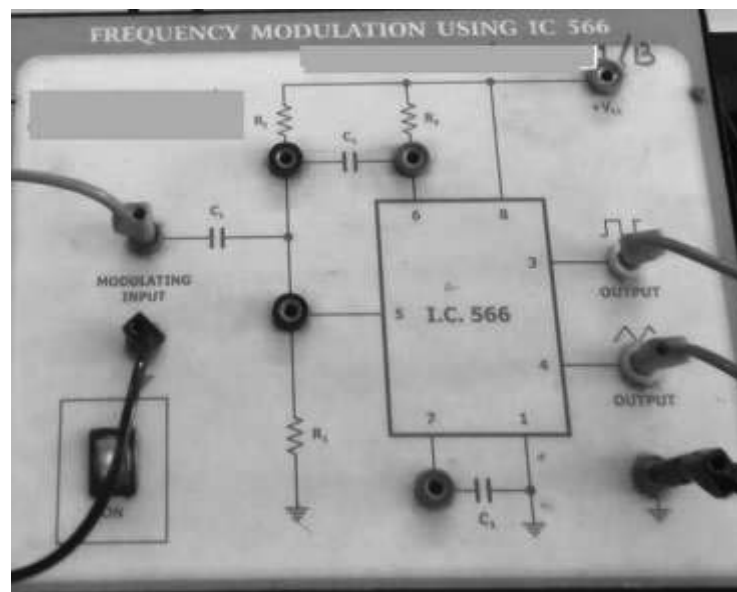
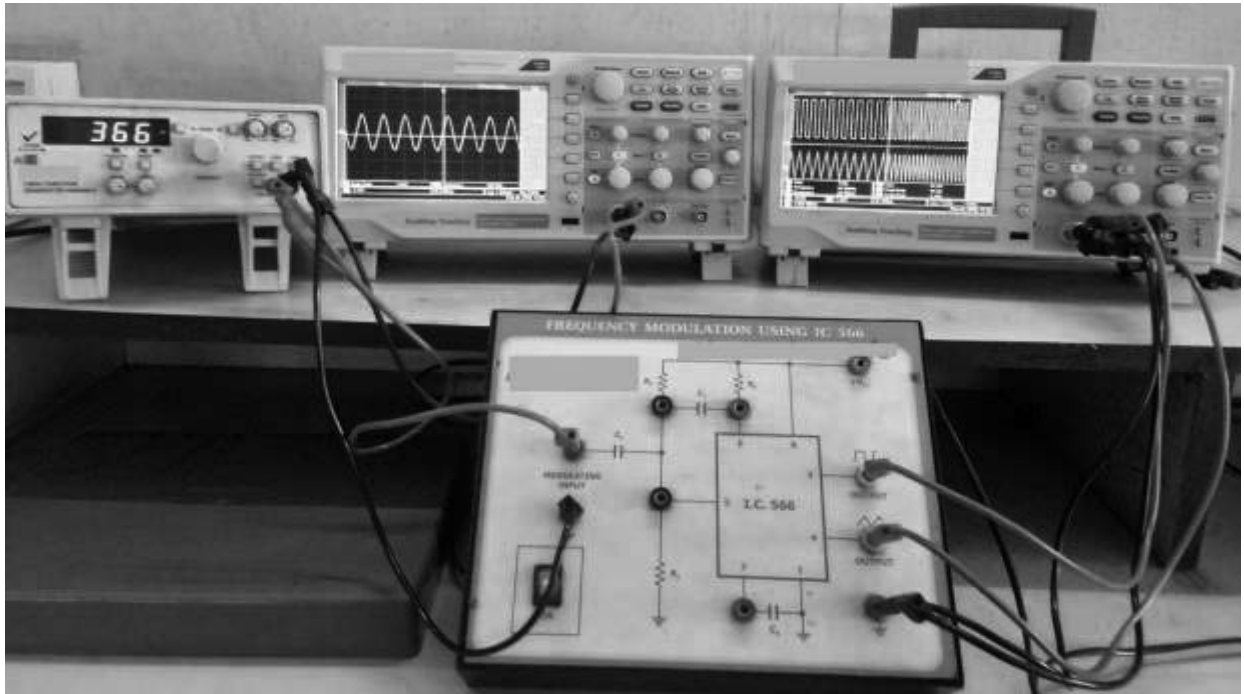

Fig 10.3: Circuit diagram of FM generation using IC 566
Fig 10.4: Experimental set up of FM generation using IC 566
a) Sample circuit diagram(Fig10.3)/ Experimental set up (Fig10.4)
1. Make the connections as shown in figure 10.4.